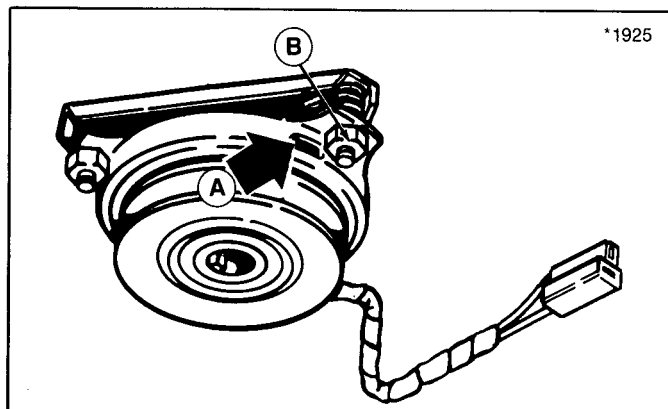

Figure 29. PTO Clutch Adjustment
2. Use a 0.010 to 0.012 feeler gauge to check the electric clutch at three places (A, figure 29). Insert the gauge. There should be a slight resistance as gauge is moved in and out of slot. If tight, or loose, go to step 3.
3. Loosen or tighten one of the nut (B) to adjust one of the three places. Loosen nut to increase gap; tighten to decrease gap.